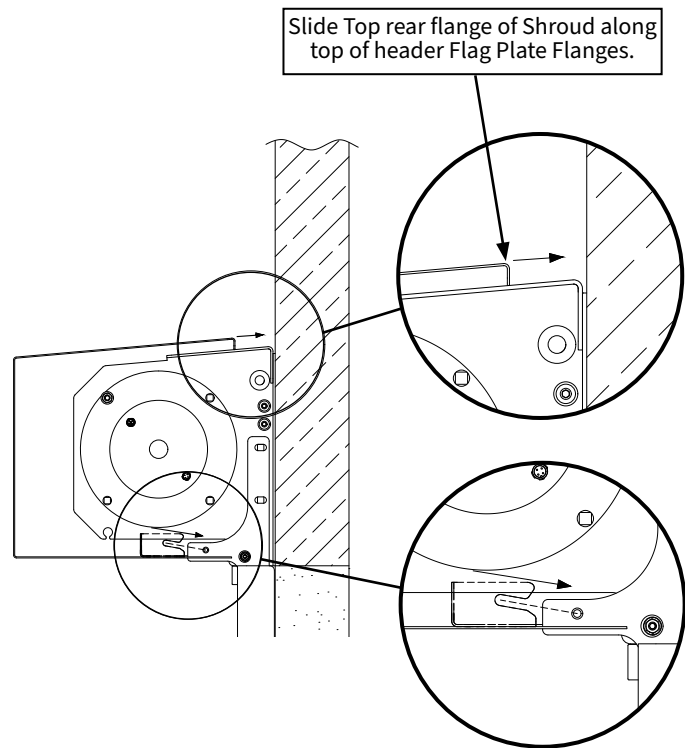

Figure 36: Slide Shroud Support Brackets onto mounting screws on Header Flag Plates.
7. Slide the top rear flanges of the Shroud along the angled flanges of the Header Flag Plates (Figure 36) as you push the shroud into position.